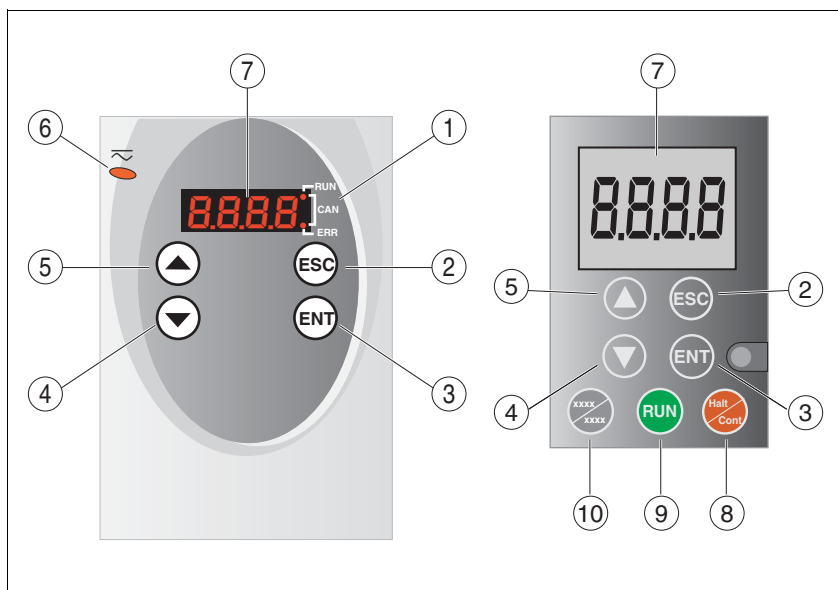

Figure 7.2 HMI and decentralised control terminal
**Control panel** Figure 7.2 shows the HMI (left) and the decentralised control terminal (right).